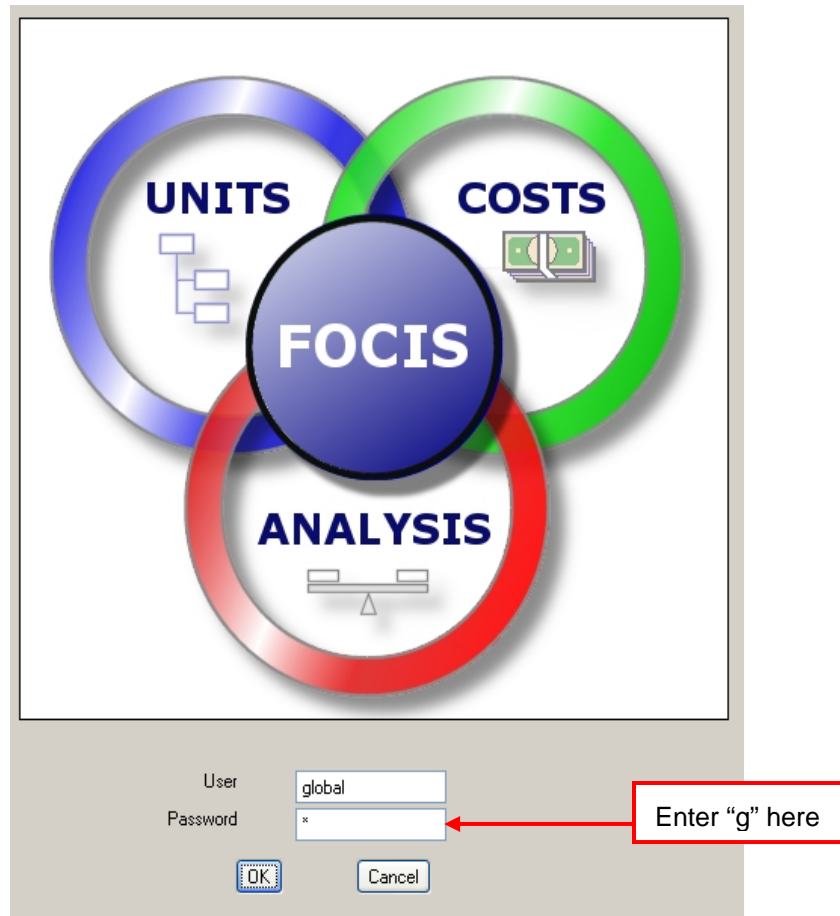

Figure II-20. User Name and Password for First-Time Login
11. When FOCIS starts, you will need to provide a user name and password. FOCIS is installed with a single generic user “**global**” and uses the password “**g**” to gain access to the application, as shown in Figure II-20. Do not type the quotation marks.